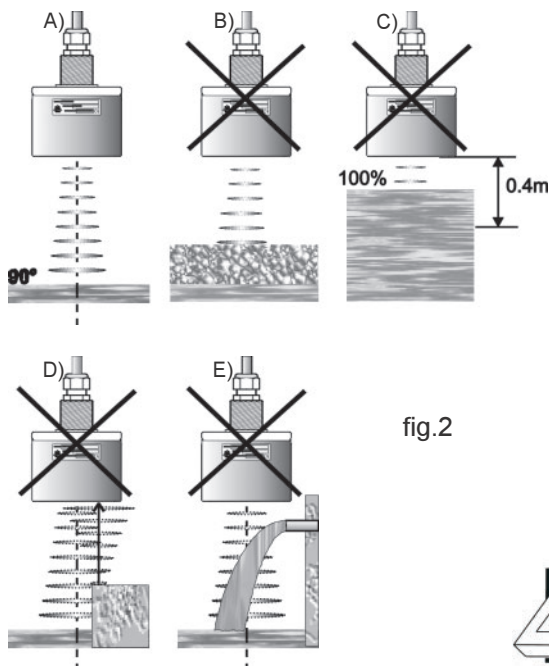

fig.2
To reach a good and safe measurement, avoiding spurious echo (not reflected from the surface to measure) need to take care about the sensor sensibility volume in the sound path, no obstacles or objects must be present into the sensibility volume (lobe), see fig.2/D/E.
On fig.2 some suggestion:
- 1) Install perpendicular at the surface, see fig.2/A
- 2) Don't use with foaming products, see fig.2/B
- 3) Avoid installation where the product distance could be less than 0,4m, see fig.2/C
- 4) No obstacles or objects must be present into the sensibility volume, see fig.2/D/E